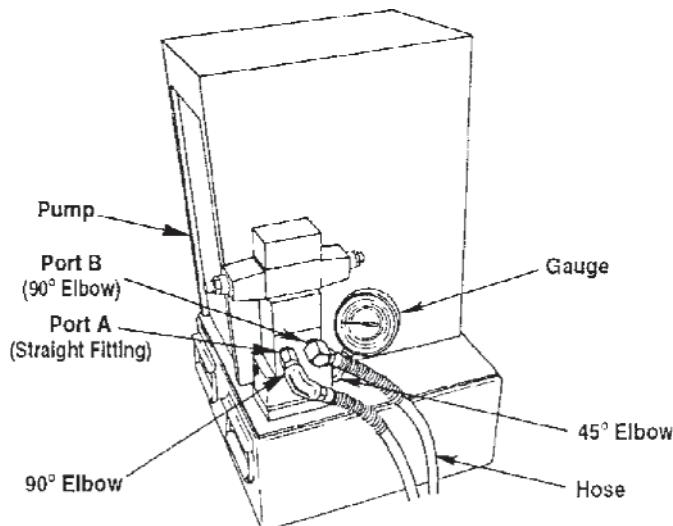
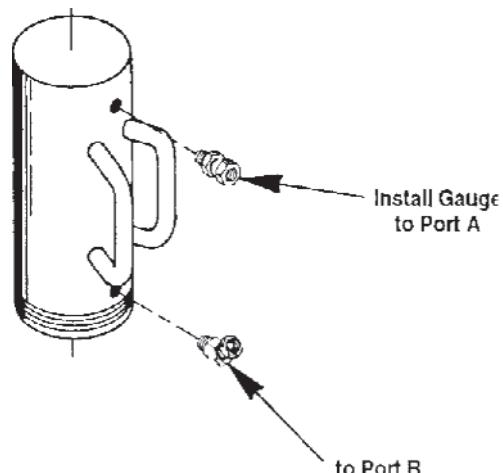

Figure 2
Figure 3
6. Clean the threads on the gauge, fittings, and hoses. Assemble hoses to pump as shown in Figure 2.
7. The gauge can be mounted to the pump's gauge port with a 45-degree elbow as shown in Figure 2. The gauge can also be mounted at the ram between the swivel fitting and the hose by using a tee adapter (not included) in the top swivel fitting. See Figure 3. In this case, install a pipe plug in the pump's gauge port.
8. Assemble hoses to the ram. Connect pump's valve port "A" to the fitting farthest away from the piston rod end of the ram. Connect valve port "B" to the fitting closest to the piston rod end. Refer to Figures 2 & 3.